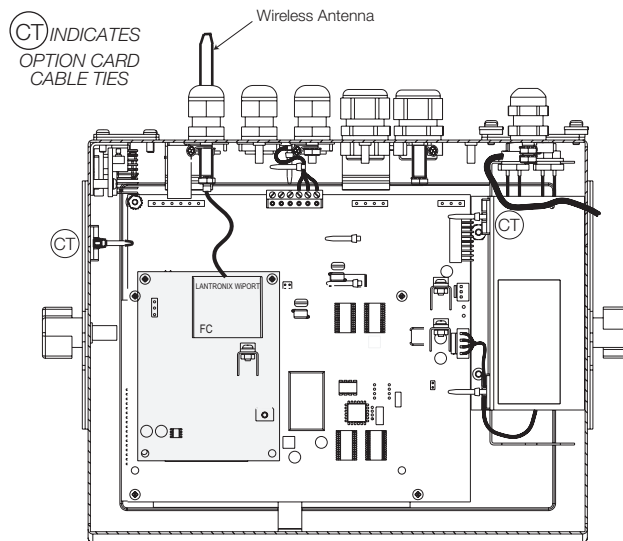

Figure 2. Installed Option Cards, Showing Secured Cables
5. Make connections to the option card as required. Use cable ties to secure loose cables inside the enclosure as shown in Figure 2. When installation and configuration is complete, reassemble the enclosure as shown on page 10.